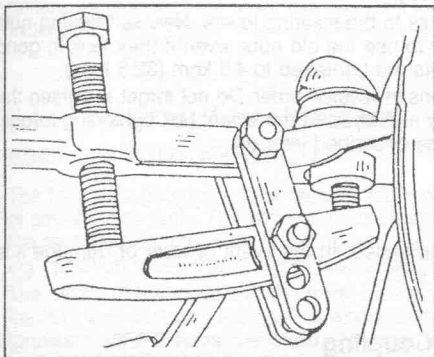

Fig. 5.4. — Separating a track rod ball joint from the steering lever with a ball joint puller.
- Remove the nuts securing the track rod ball joints to the steering lever and, using a suitable ball joint puller as shown in Fig. 5.4, separate the ball joint connection. It may be better to leave the nuts on the ball joint studs to protect the threads.
Jack up the front end of the vehicle and remove the wheel on the side in question. Unscrew the nut securing the track rod ball joint to the steering lever and, using a puller as shown in Fig. 5.4, disconnect the track rod ball joint.